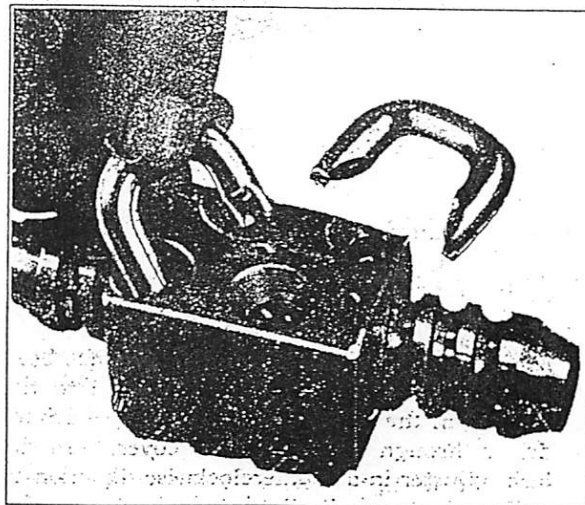

Fig. 23—Removing or Replacing Ball Guides
5. Push the guide into the guide holes of the nut as shown in Fig. 23. This completes one circuit of balls. If the guide does not push all the way down easily, tap it lightly into place with the wooden handle of a screw driver.